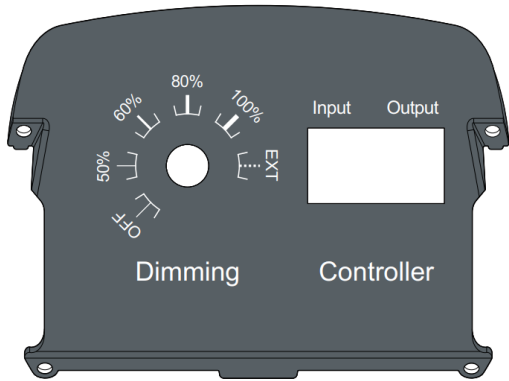

Fig. 6
- ✓ 50% / 60% / 80%/100%: Dimming level (@200W and 250w, see Fig. 6).